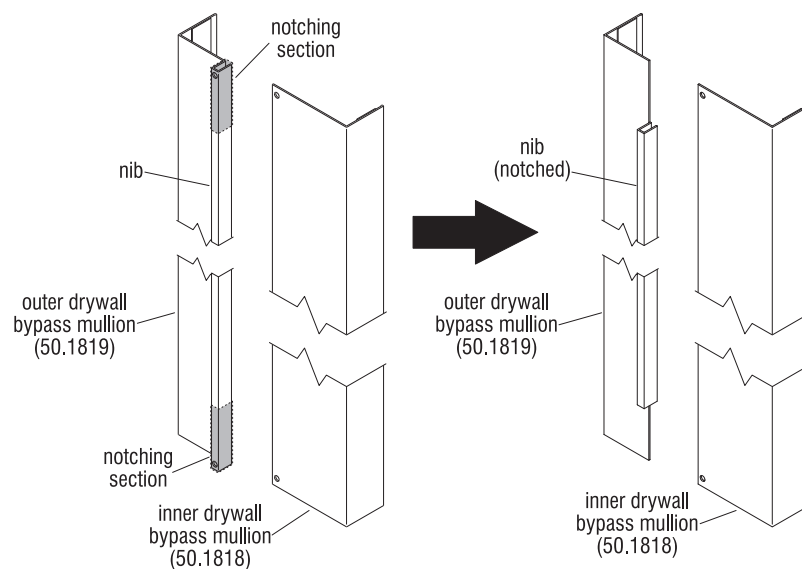

Figure 4
6. Using these two measurements, notch off the top and bottom of the outer drywall bypass mullion nib (50.1819). This will allow clearance for the mullion to fit around the floor & ceiling trim, and snugly to the panel (Figure 4).